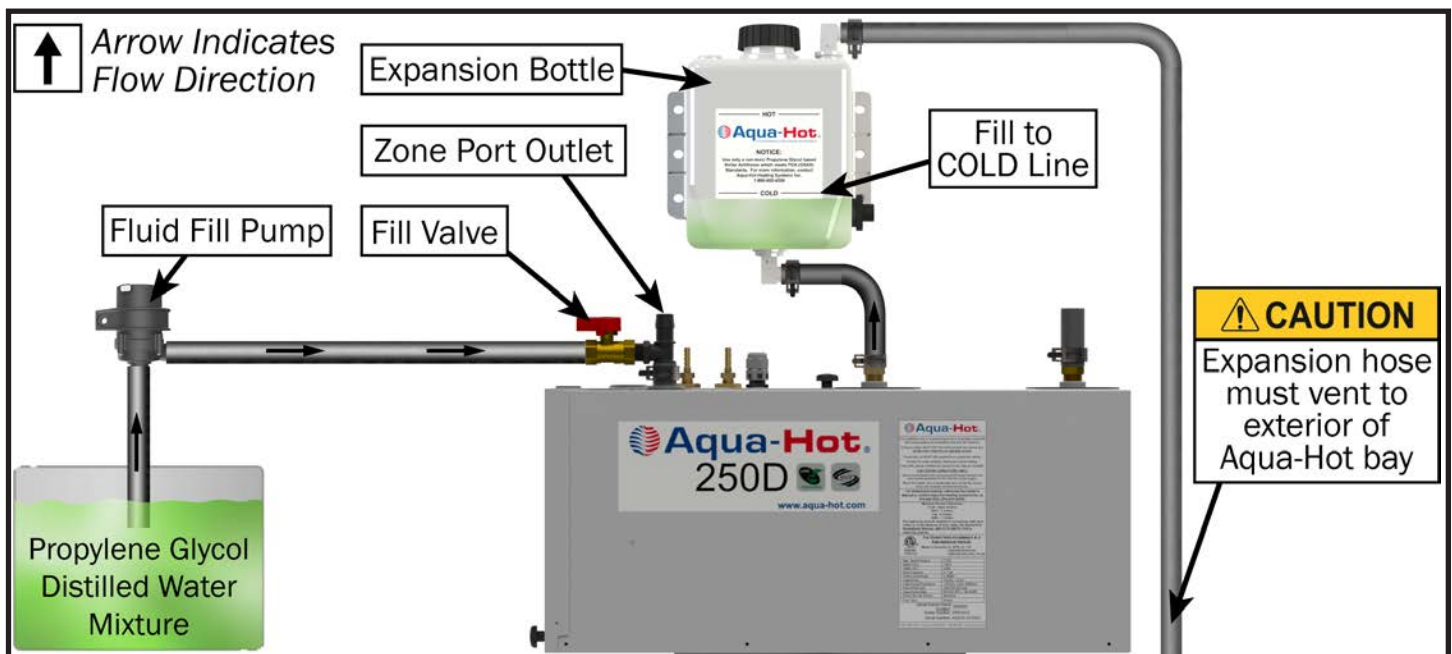

Figure 163
1. Locate the fill valve at the zone port outlet (Figure 163).